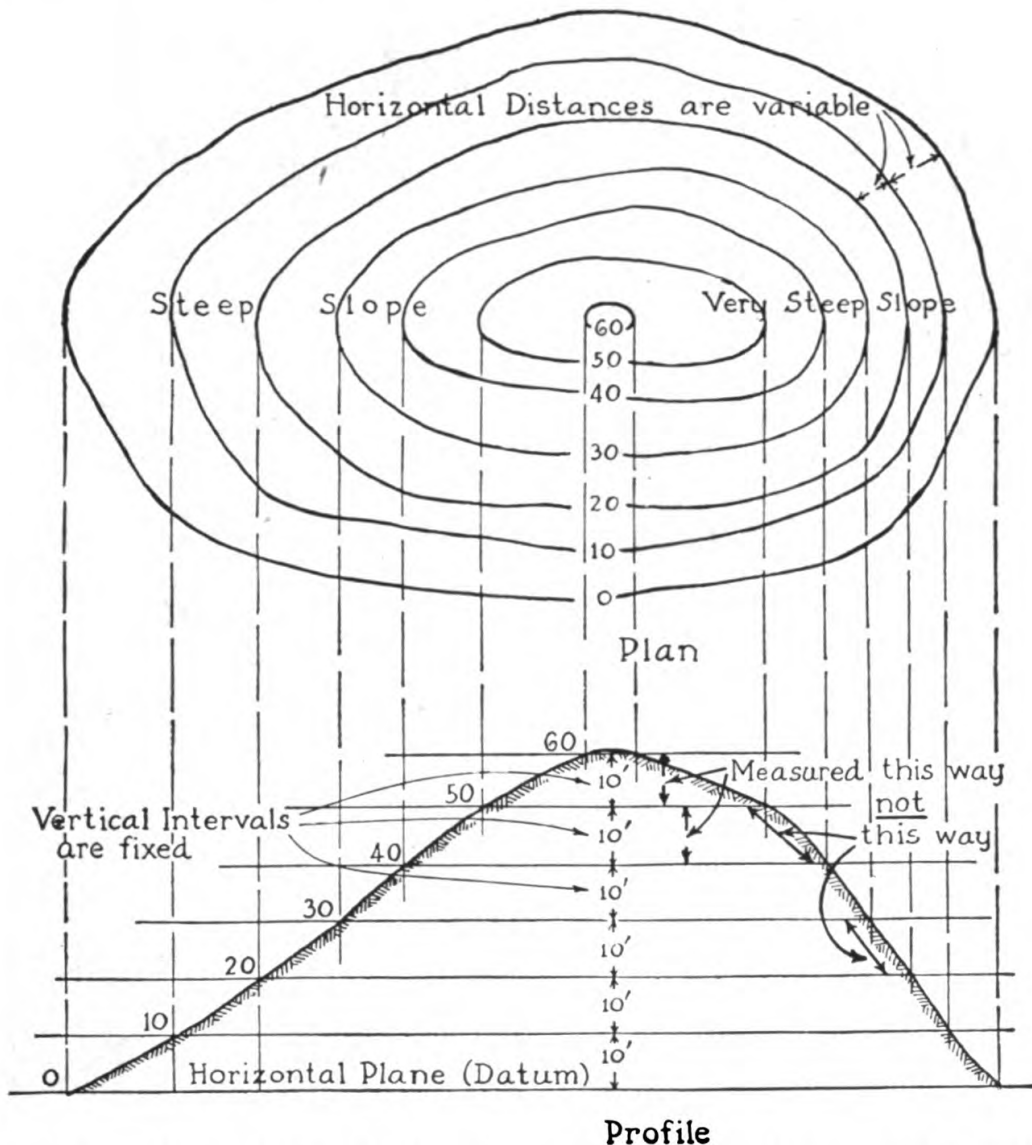

FIGURE 143.—Plan and profile of a hill. (Contours are the lines that would be left on the ground by successive horizontal slices 10 feet thick.)
*Q.* Give a simple method of making a profile.—*A.* To make a profile of the hill shown in figure 143, along the line of the words "Steep slope, Very steep slope" draw a number of parallel lines at uniform intervals, as in the lower figure, numbering them at 10-foot intervals from 0 to 60 feet (the limiting elevations of the hill). Mark each point where a contour cuts the line "Steep slope," and